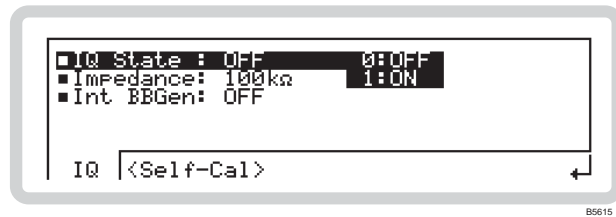

Fig. 3-64 External IQ, analog
- 2 Press **SIG GEN** to show the main screen, and touch the **IQ** soft box to select the function. Touch **IQ** and press **IQ** to view the external analog IQ modulation menu (Fig. 3-64).